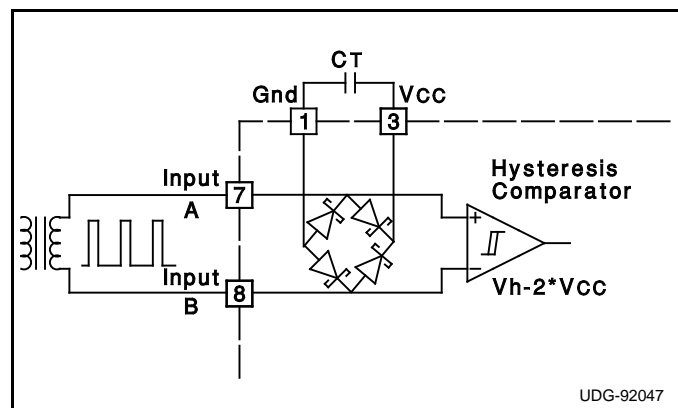

FIGURE 1 - Input Stage
**INPUTS:** Figure 1 shows the rectification and detection scheme used in the UC1725 to derive both power and signal information from the input waveform.  $V_{CC}$  is generated by peak detecting the input signal via the internal bridge rectifier and storing on a small external capacitor,  $C_1$ . Note that this capacitor is also used to bypass high pulse currents in the output stage, and therefore should be placed directly between pins 1 and 3 using minimal lead lengths.